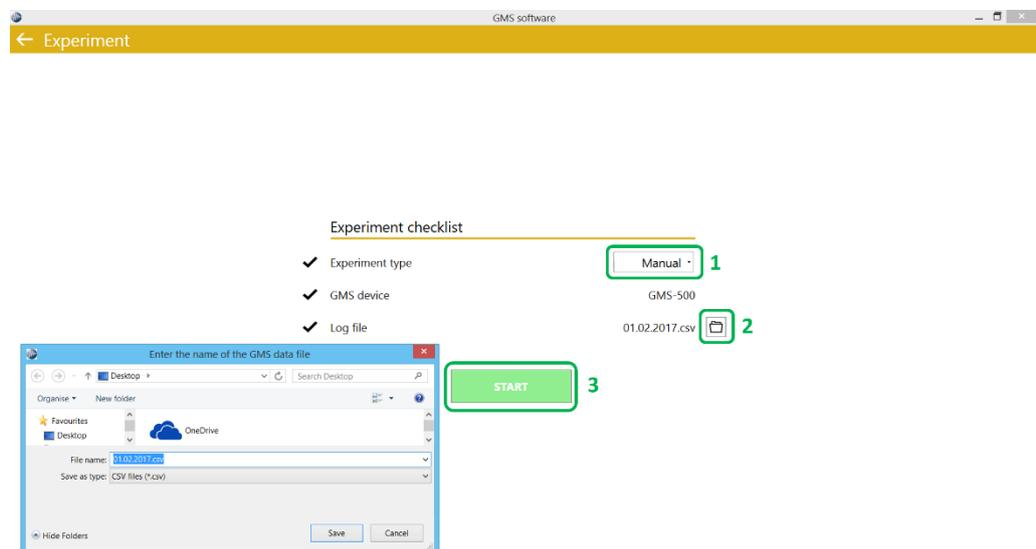

Figure 6: Experiment checklist
3. In the Experiment checklist choose 'Manual' or 'Automated' experiment type from the drop down field (1, Figure 6).
4. Choose a location for the log file to be saved (2, Figure 6).
5. START the experiment (3, Figure 6)